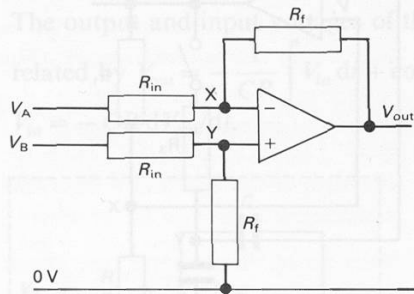

Figure I78
- f** *Optional* Use the generalized values shown in figure I78 (in which two resistors have the value R_{in} and two have the value R_f) to show algebraically that